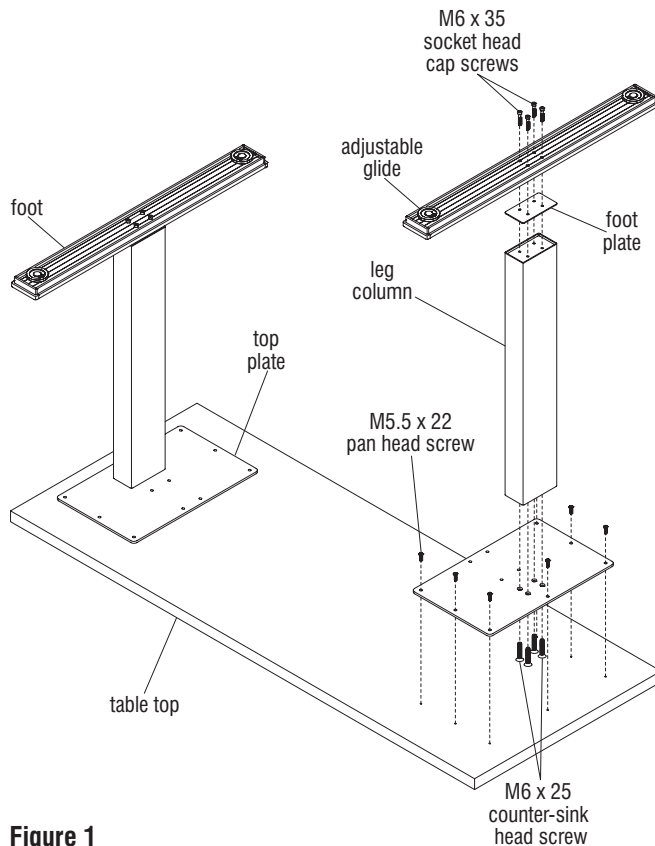

Figure 1
1. Carefully remove all components from packaging, set out and identify parts and hardware required for table assembly (Figure 1 & Detail A).
2. Begin base assembly by aligning four mounting holes of a top plate with threaded holes in either end of a support column. The tapered counter-sink holes on the top plate must face outward for assembly. Twist in four M6 x 25 counter-sink head screws, through the plate and into the column. Tighten screws in a diagonal sequence to a maximum of 9 in./lbs. of torque (Figure 1).
3. At opposite end of support column, set one spacer plate into the column end. Orient a foot over the column and spacer as illustrated, aligning the four mounting holes and twist in four M6 x 35 socket head cap screws. Tighten screws in a diagonal sequence to a maximum of 9 in./lbs. of torque (Figure 1).
5. Repeat steps 2 & 3 for second leg assembly and step 4 if casters are required (Figure 1).
6. Carefully place table top upside down onto a soft, protective surface. One table base at a time, orient the top plate of the base assembly as illustrated over the pre-drilled holes in the table. Secure top plate to table top using seven M5.5 x 22 pan head screws. Take care to not strip screws in top. Repeat for second table base assembly (Figure 1).